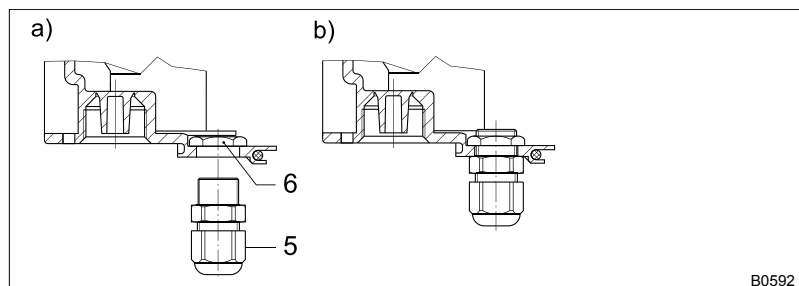
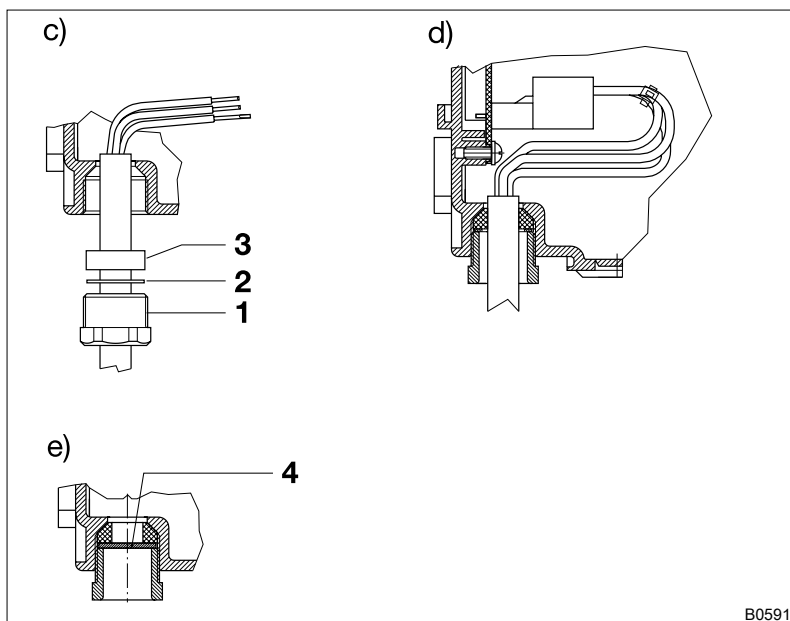

Fig. 7: Threaded connectors for signal cable (M12 x 1.5)
Fig. 8: Threaded connector for mains cable (M20 x 1.5)
2. ➤ Feed cables into the threaded connectors - see Fig. 8 and Fig. 7